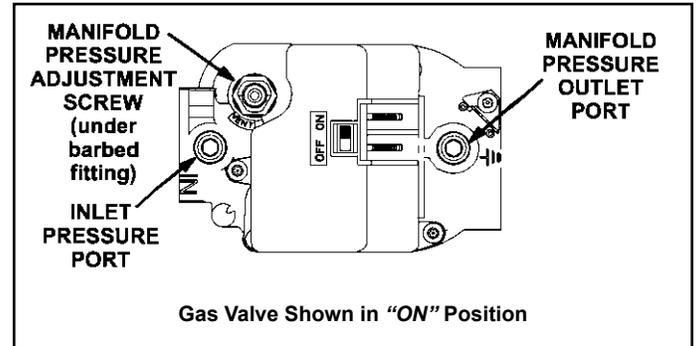

Figure 27
See Figure 27
6. Move switch on gas valve to OFF. Do not force. See Figure 27.
8. Move switch on gas valve to ON. Do not force. See Figure 27.